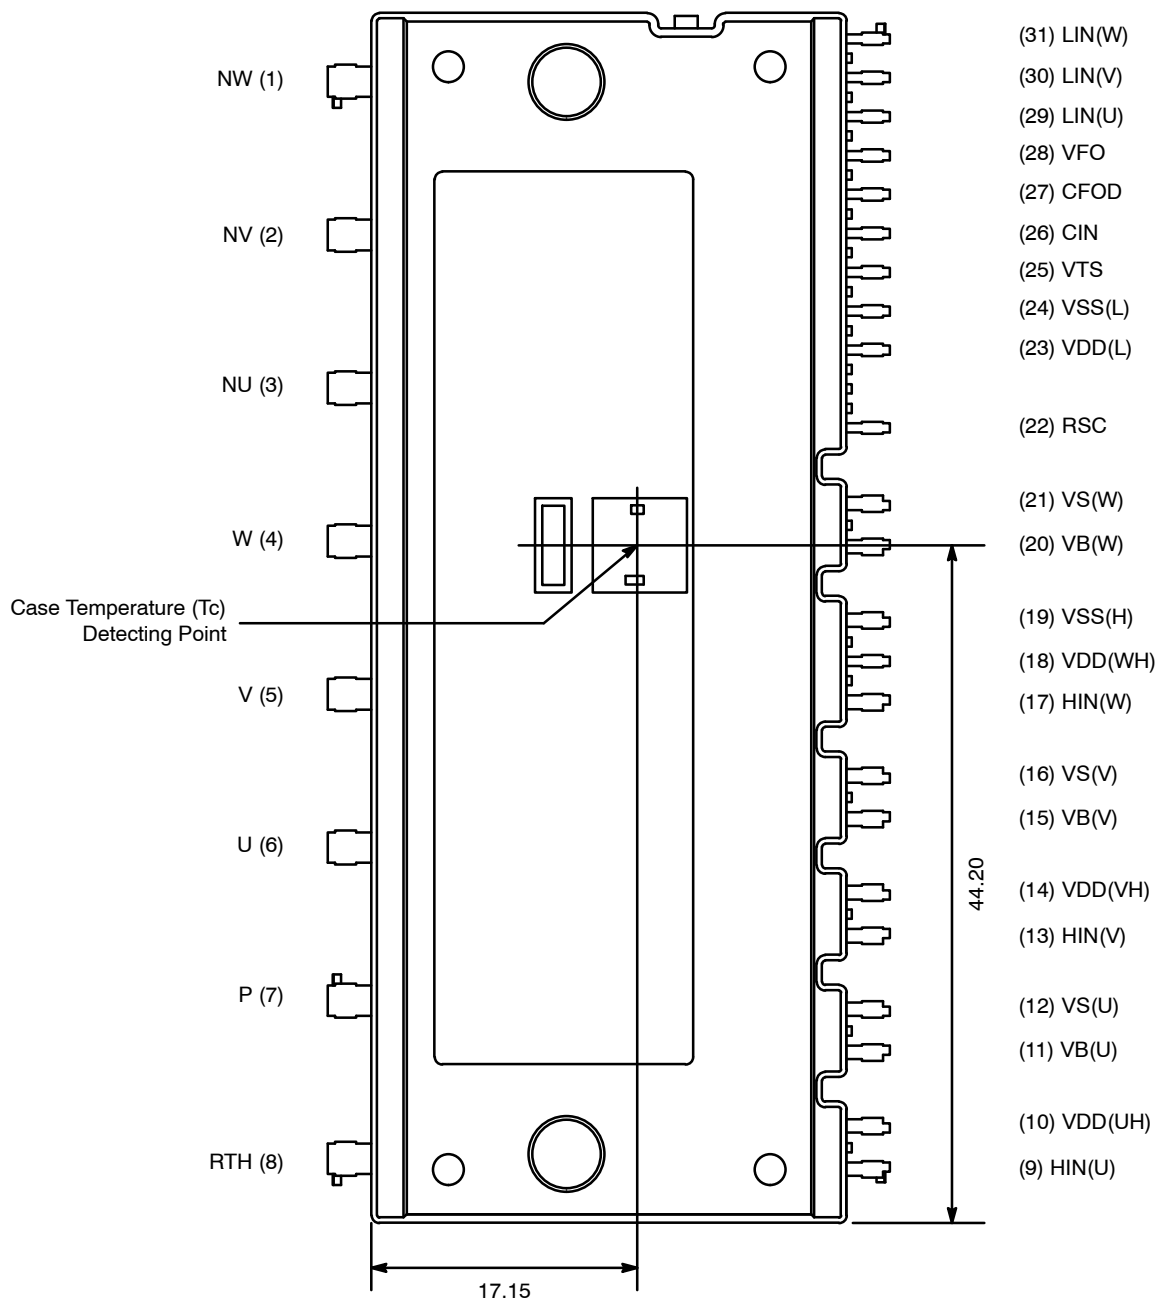

Figure 1. Pin Configuration – Top View
5. For the measurement point of case temperature (Tc), please refer to Figure 1. DBC discoloration and Picker Circle Printing allowed, please refer to application note AN-9190 (Impact of DBC Oxidation on SPM[®] Module Performance).